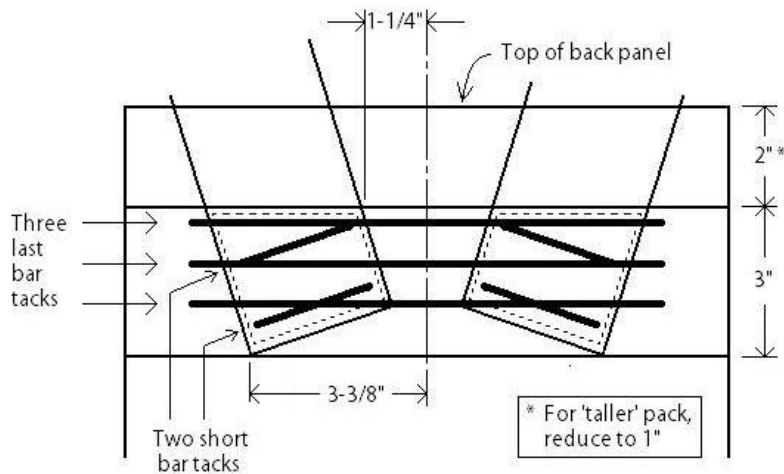

Figure 9. Shoulder pad connection to back.
- 4.2.1 Attach the shoulder strap tops, open ends, onto the right side of the back panel, as indicated on the pattern and *Figure 9*. On the right side of the back, lay the straps down so the ladderlocks are facing down, and the ends are curving away from the center. Edge stitch and do two short bartacks per strap as shown in *Figure 9*.
- 4.2.2** Sew the shoulder strap cover onto the back panel, over the ends of the straps, positioned 2" from top as shown in Figure 9. Edge stitch and bar tack three times as shown in Figure 9.